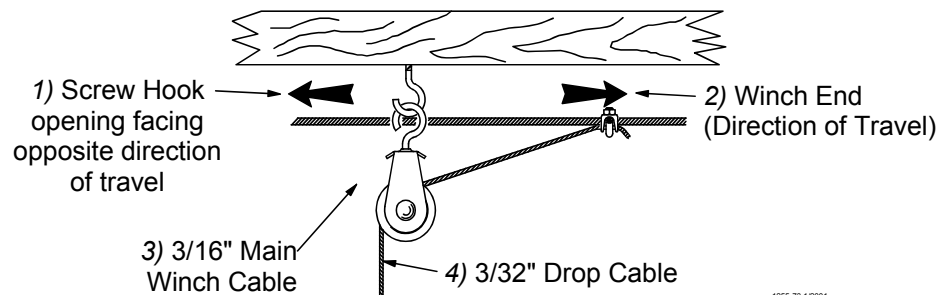

Figure 14. Screw Hook Installation
4. The openings of the screw hooks must be pointed away from the direction of travel when the Power Winch raises the feeder line. See **Figure 14**.
Refer to page 12 **Figure 14**.
2. Thread the end of the 3/32" or 1/8" cable through the pulley toward the winch. Clamp this end to the 3/16" winch cable about 6" [150 mm] from the last pulley, using a 3/16" cable clamp. See applicable figure; **Figure 14 or 20**.